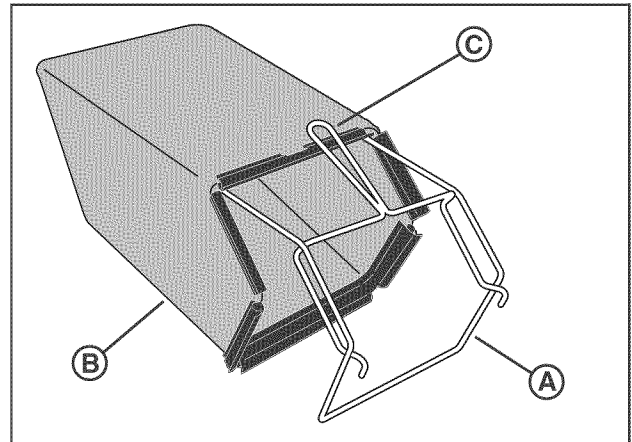

Figure 6: Installing the frame assembly
1. Slide the frame assembly (A, Figure 6) into the grass bag (B). Make sure the handle (C) is on the outside of the grass bag.